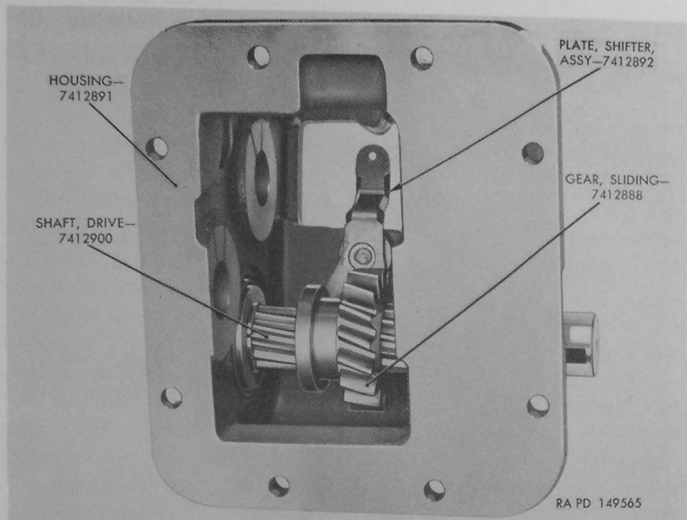

Figure 92. Power take-off drive shaft and sliding gear installed.
*g.* Press rear bearing cup (PP) into drive shaft rear bearing cap (MM); then, using two rear bearing cap gaskets (NN), install drive shaft rear bearing cap on housing and retain with four  $\frac{5}{16}$ -18 x 1 cap screws (KK) and copper washers (LL). Tighten cap screws gradually, meanwhile turning drive shaft by hand to detect any tightness at bearings. If tightening cap screws causes tightness in bearings, remove rear cap and use thicker gaskets or add one 0.010-inch gasket. When sufficient gaskets have been selected to prevent tightness at bearings, tighten rear bearing cap attaching cap screws firmly.
*Note.* Shoe on shifter plate assembly (SS) must engage groove in sliding gear. Figure 92 shows drive shaft and sliding gear installed.